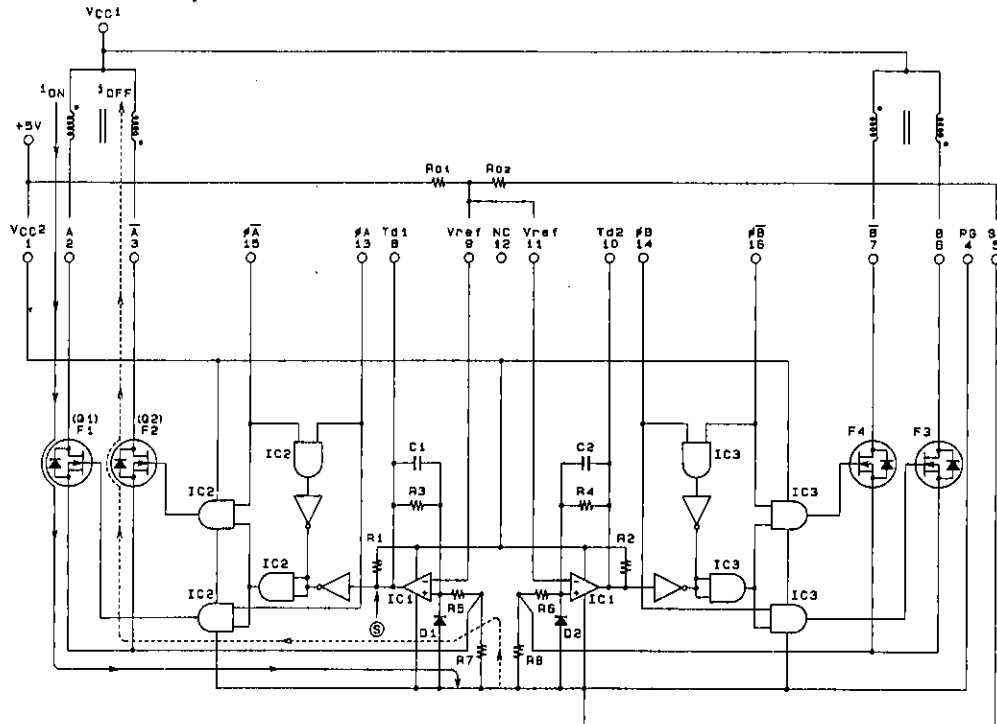

Fig. 1 STK6713AMK4 Internal Equivalent Circuit
The STK6713AMK4 equivalent circuit is given in Fig. 1. The circuit consists of the phase drivers, the comparator, the PWM excitation select and the current detect resistance. In Fig. 1  $\phi A$  is input with high, and  $\phi \bar{A}$  with low. When Q1 goes on, the +pin of IC1 (comparator) goes low, making IC1 output (S) low also. A winding current  $i_{ON}$  through Q1 increases as: